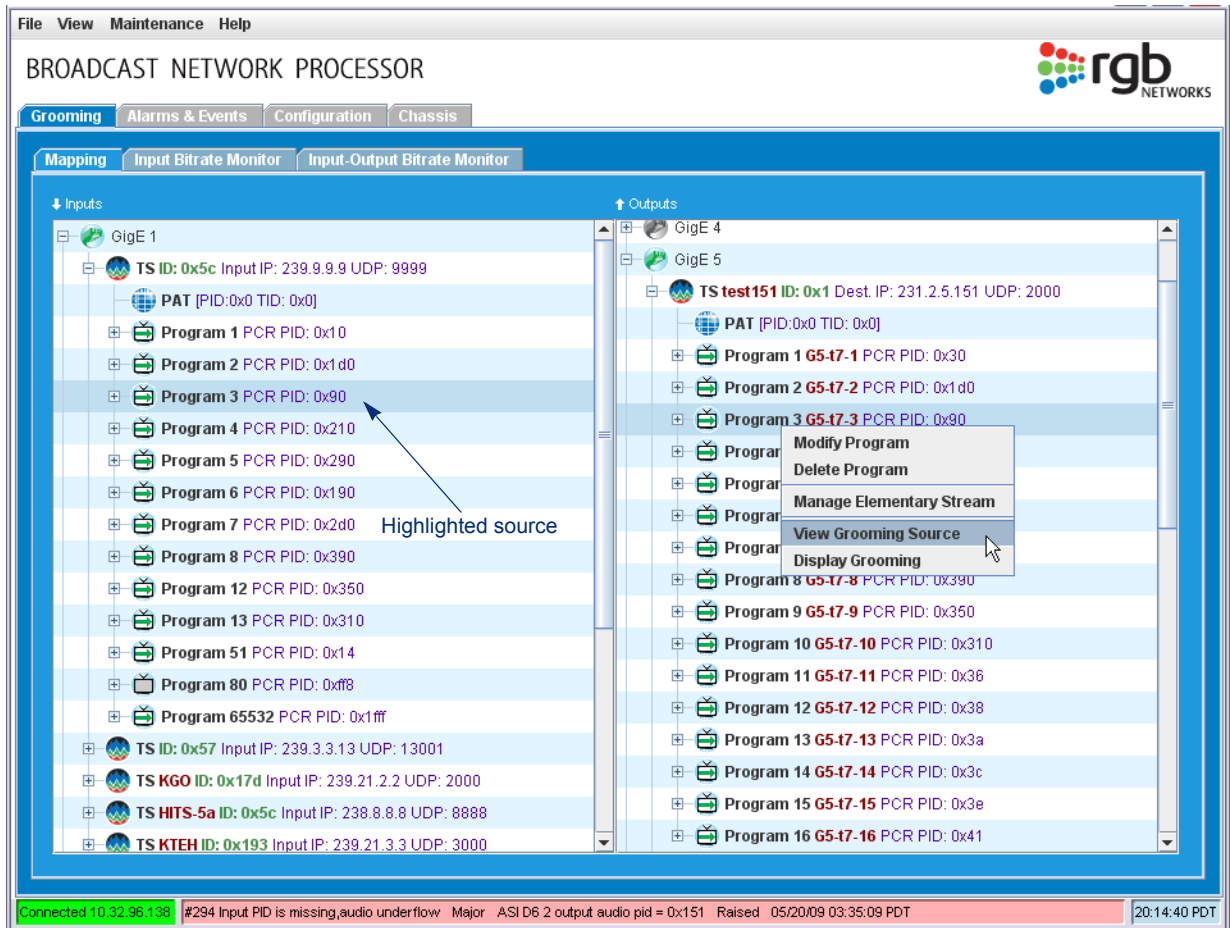

Figure 99. Viewing program-level input source
1. Right-click the desired program on the **Outputs** (right-hand) side of the screen (Figure 99).
3. Observe the highlighted grooming source from the Inputs (left-hand) side of the screen (Figure 99).